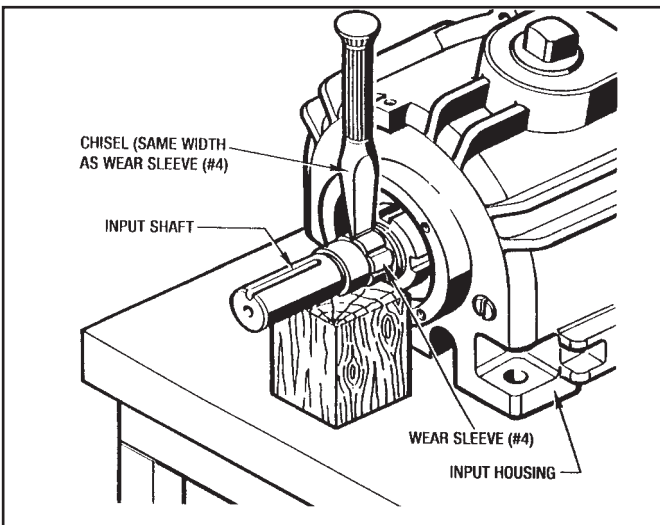

Figure 7.2 - Wear Sleeve Removal (#11 and 14 Posidyne)
2. Remove (6) Screws (#63) and remove Bearing Retainer (#7), taking care not to damage the lip of the Oil Seal (#31).
5. Remove the Wear Sleeve (#4). See 7-12 WEAR SLEEVE REMOVAL PROCEDURE. (Figure 7.2)
3. Remove (6) Screws (#63) and remove the Bearing Retainer (#7), taking care not to damage the lip of the Oil Seal (#31).
5. If the Wear Sleeve (#250) needs to be replaced see Section 7-12 WEAR SLEEVE REMOVAL PROCEDURE. (Figure 7.2)
1. With a chisel the same width as the Wear Sleeve (#4), make about 5 or 6 notches in the Sleeve parallel to the Input Shaft. (See Figure 7.2)